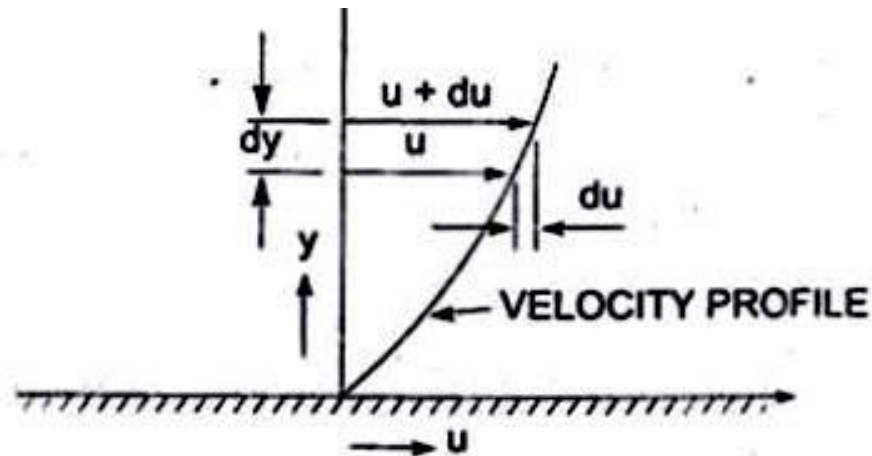

Fig. 1.1 Velocity variation near a solid boundary.
- When two layers of a fluid, a distance ' dy ' apart move one over the other at different velocities say u and $u + du$ as shown in Fig. 1.1, the viscosity together with relative velocity causes a shear stress acting between the fluid layers: